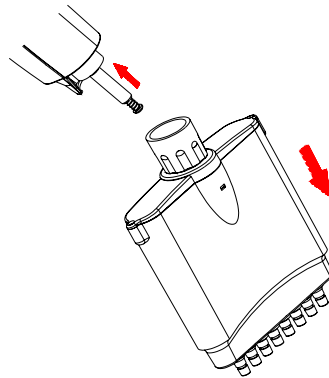

Figure 14: The lower piston assembly will come off easily and automatically.
5. The lower piston assembly will come off easily and automatically as shown in Figure 14.